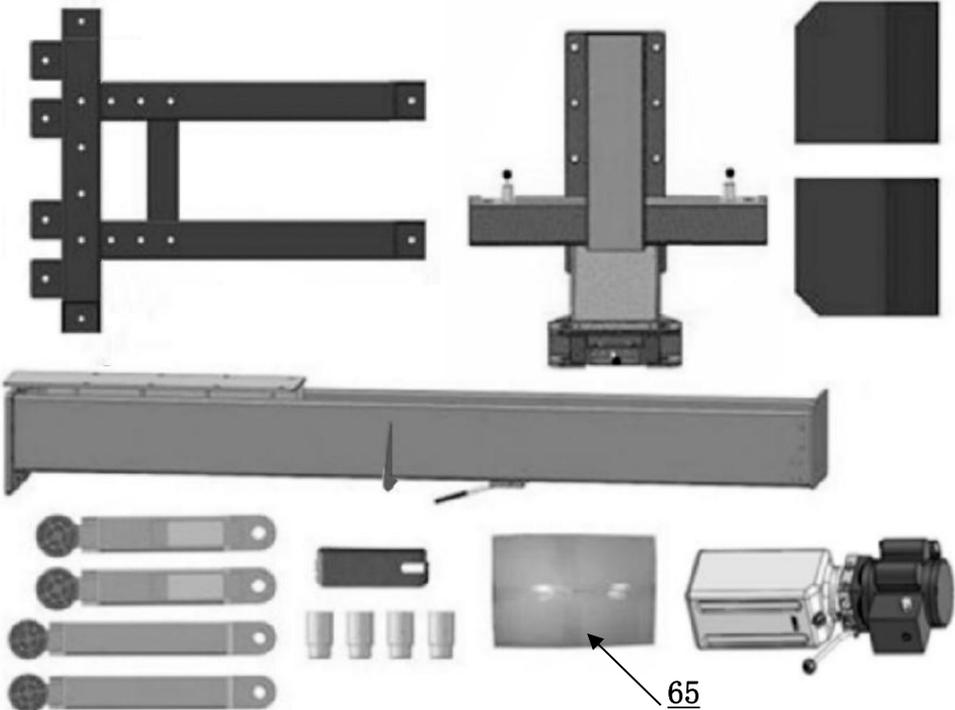

Fig.6
3. Move aside the parts and check the parts according to the shipment parts list. (See Fig.6 & 7)